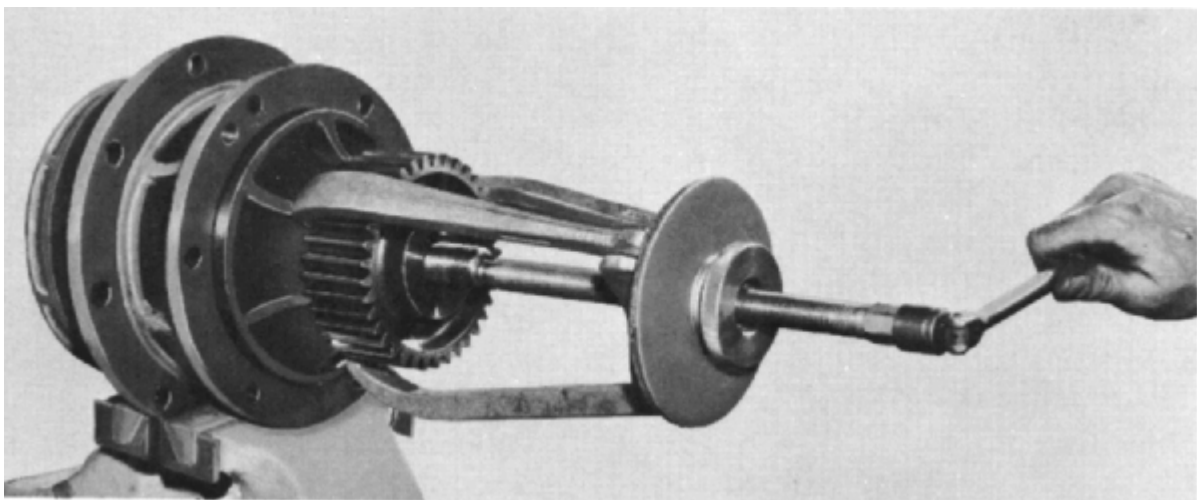

Fig. 10-10 - Drive Gear Removal
9. Apply impeller gear puller, Fig. 10-10, and remove pump drive gear and key.